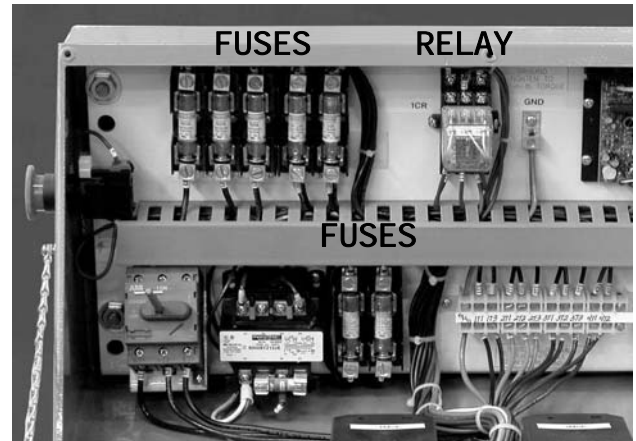

Figure 30
1. Use a fuse puller to replace any of the eight large fuses (see Figure 30).